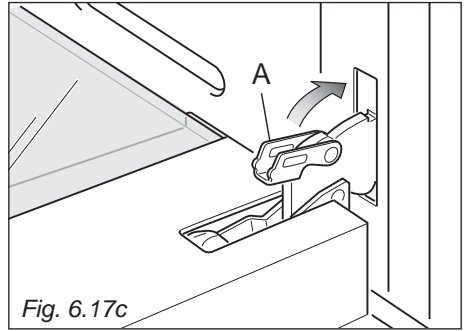

Fig. 6.17c
4. Fully close the levers "A" on the left and right hinges, as shown in the figure 6.17c.